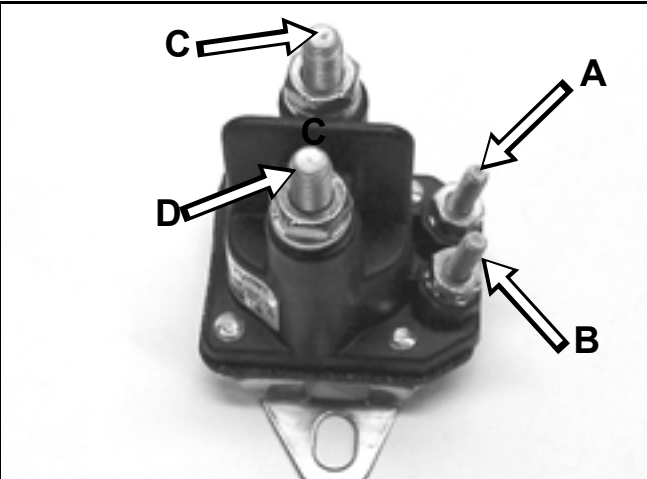

Figure 223 MVC-837F
4. You should be able to hear the solenoid “click” when you make the connection (Figure 223).